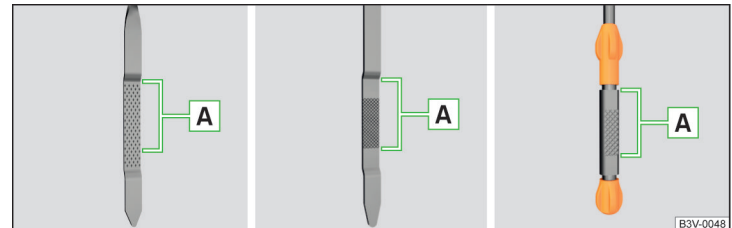

Fig. 161 Dipstick variants
The oil level must lie in range **A** » Fig. 161. If the oil level is below range **A**, oil must be added.
- The oil level must never be below range **A** » Fig. 161 - risk of damage to the engine as well as to the exhaust system.